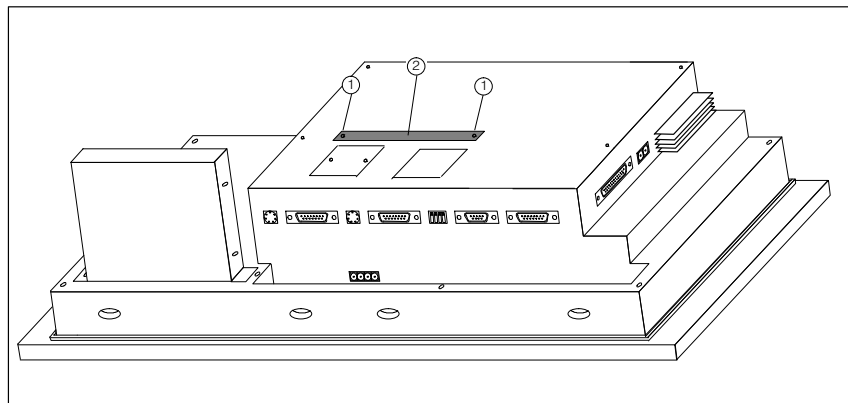

Figure 5-1 Removing the side panel
2. Undo two screws ① and remove the cover (Figure 5-1) identified by ② from the rear panel of the OP. Screw the screws at their original location back into housing.
3. Insert the AT expansion box via the plug-and-socket device into the socket located under the cover ② in Figure 5-1.